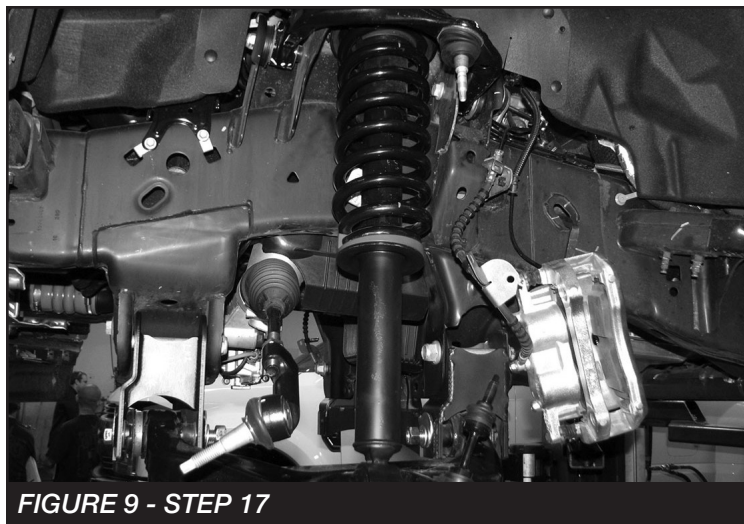

FIGURE 9 - STEP 17
17. Install the shock assembly into the upper shock mount using the factory 3 nuts (58 ft-lbs) and the supplied 1/2" hardware for the lower mount to control arm (127 ft-lbs). **SEE FIGURE 9**